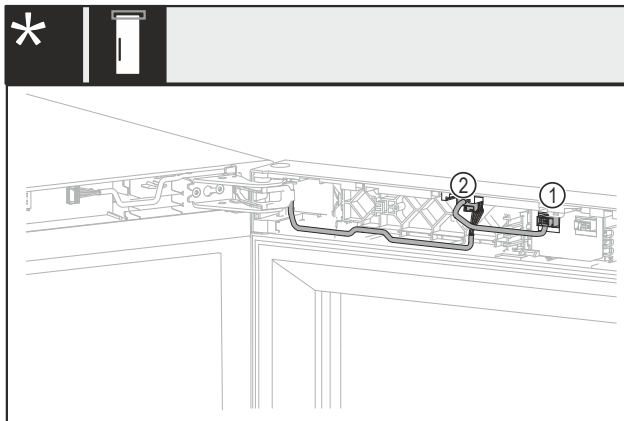

Fig. 18 Without lock or with mechanical lock\*
- ▶ Pull out the plug Fig. 18 (1)\*
- ▶ Pull out the plug Fig. 18 (2)\*